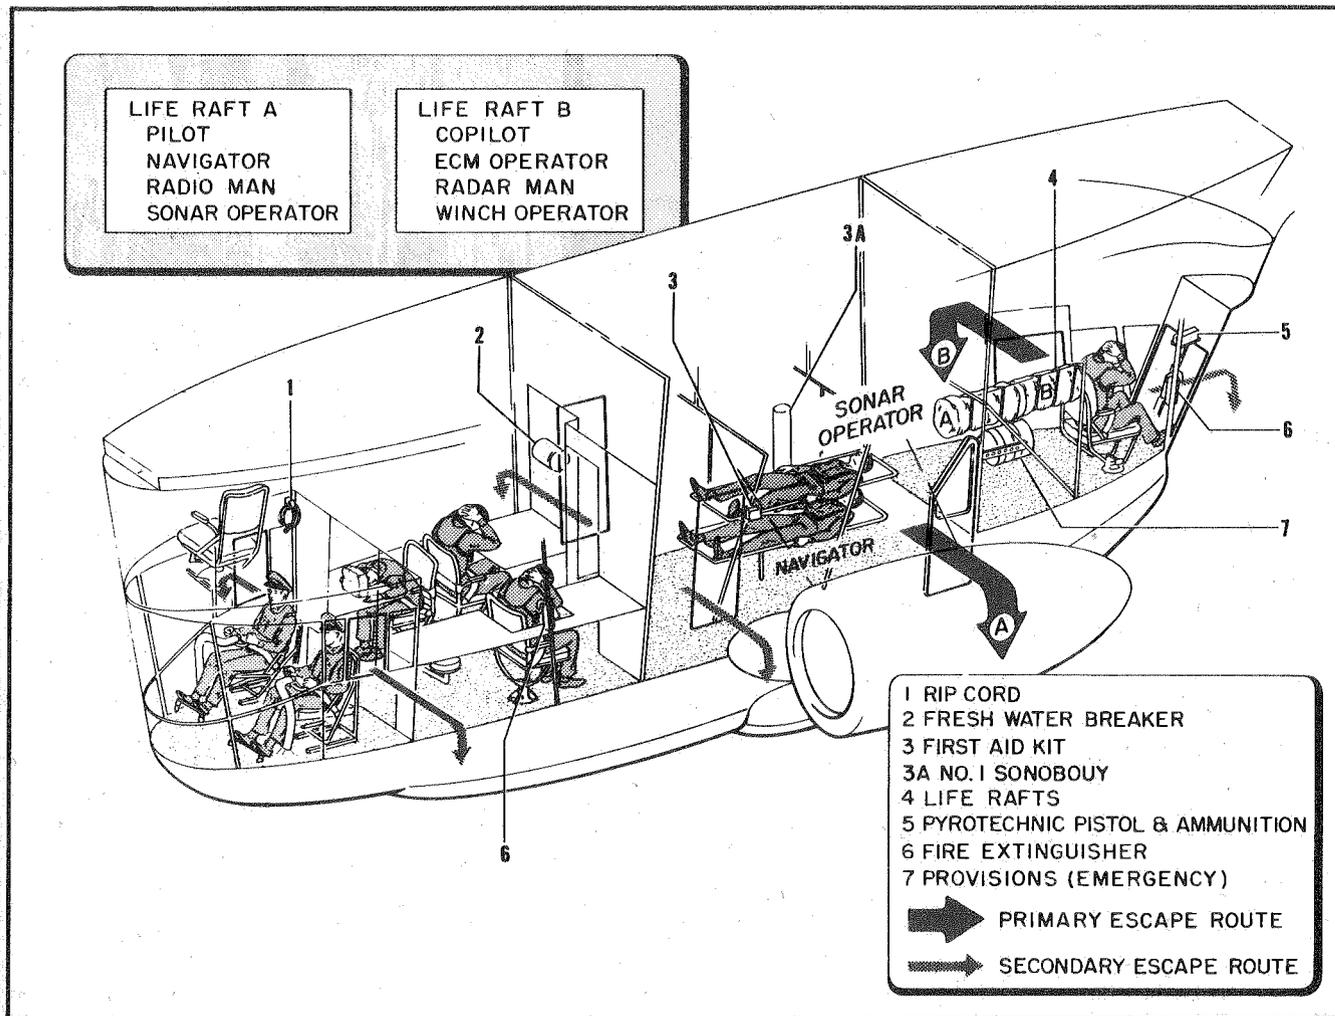

Figure 3-1. Ditching and Crash Landing Stations
CAR FIRE. The portable fire extinguishers located as shown in figure 3-1 can be used to extinguish a car fire. If the fire is in any equipment, such as the heater sys-
- h. Order inactive crew members to assume crash landing stations as shown in figure 3-1.